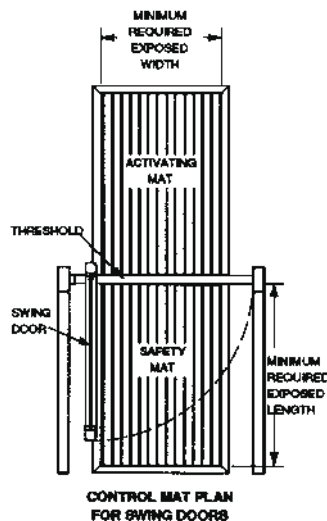

Figure 2
2. It is necessary to have a safety mat covering the entire area the door swings over. Step through the doorway onto the safety mat and remain motionless for 4 seconds. The door should remain open. Repeat at several locations on the mat. (See Figure 2 or 3)